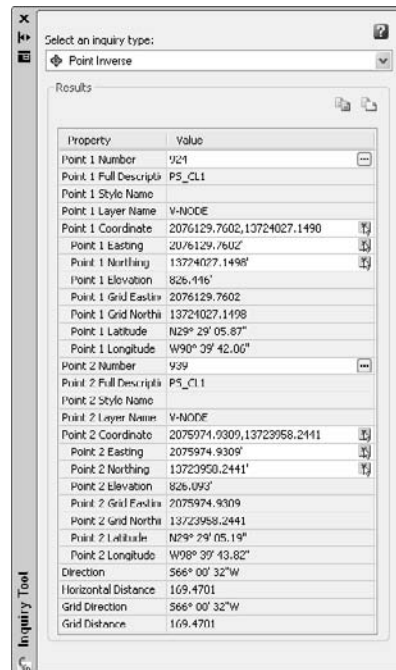

Figure 2.4
- Click the ellipsis button on the Point 2 Number row, and select point 939 (it's near the entrance road to the subdivision). The palette should look like Figure 2.4.